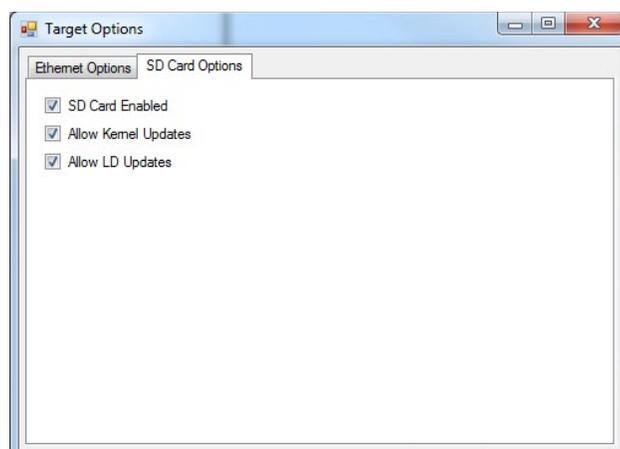

Figure 2.40 - HEC-P6XXX SD CARD OPTIONS
8. Click the **TARGET OPTIONS** button. The Target Options window will open. There will be two tabs in this window. Click the **SD CARD OPTIONS** tab. See Figure 2.40.